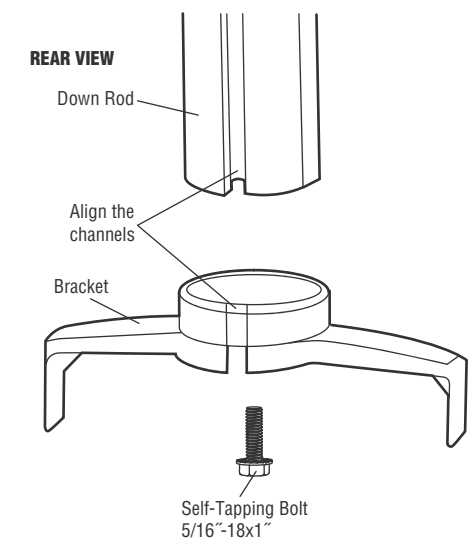

FIGURE 1 OPTION 1
1. FASTEN THE TRACK TO THE CEILING (FIGURE 1)